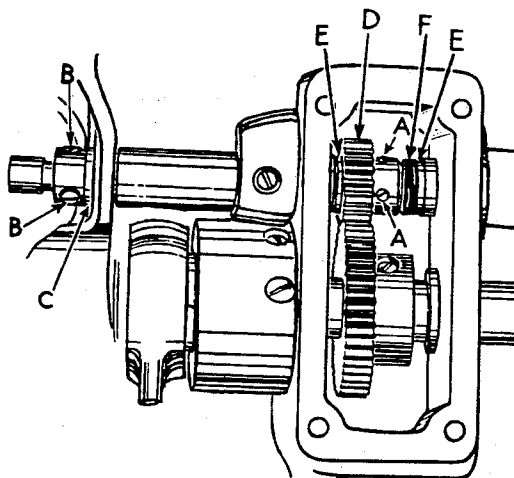

Fig. 16
Should it become necessary to replace the hook shaft, drain the oil from the gear case and remove gear case cover and hook. Loosen gear set screws (A, Fig. 16) and carefully withdraw hook shaft. Remove thrust collar from left end of hook shaft by loosening screws (B). To re-assemble, slide collar onto the hook shaft with faced end adjacent to bushing (C) and insert hook shaft as far as it will go. Tighten set screws (A) making sure that one of the set screws bears against the flat on the shaft. Check for bind. Then set the thrust collar against bushing (C), tighten screws (B) and check for bind.